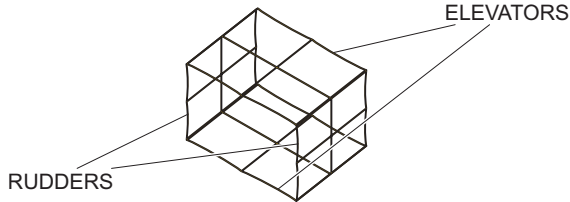

Figure 7
- B Butt join the elevators and rudders as shown in Figure 7 below and bond them.